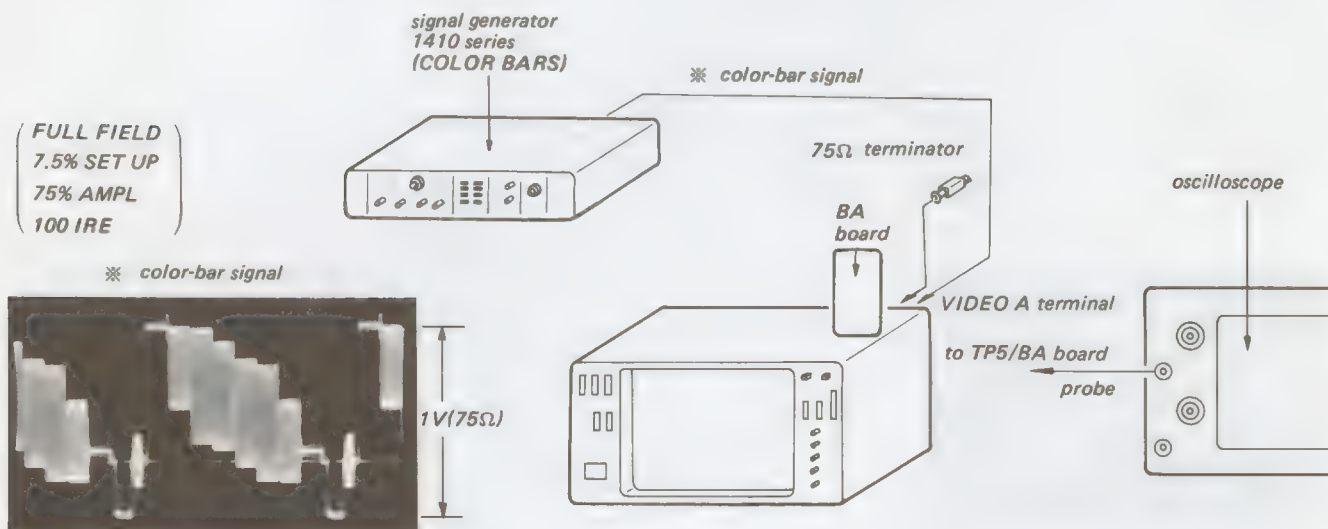

Fig. 5-42.
1. Complete the connections as shown in Fig. 5-42.